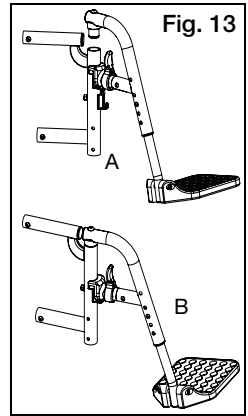

Fig. 13
- Place swing away pivot saddle into the receiver on front frame tube (Fig. 13:A).
- Rotate the footrest so that it aligns with the frame and locks into place in the latch block (Fig. 13:B).